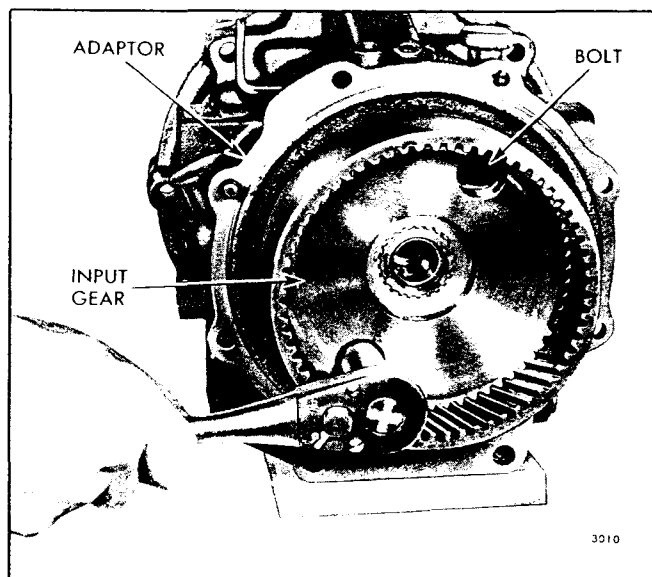

Fig. 14 - Removing Reduction Gear Adaptor to Reverse Gear Housing Bolts (1.5:1 Ratio)
- a. Remove and discard the six 7/16" -14 Nylock bolts and lock washers securing the adaptor to the reverse gear housing through the two access holes in the flange of the input gear as shown in Fig. 14.